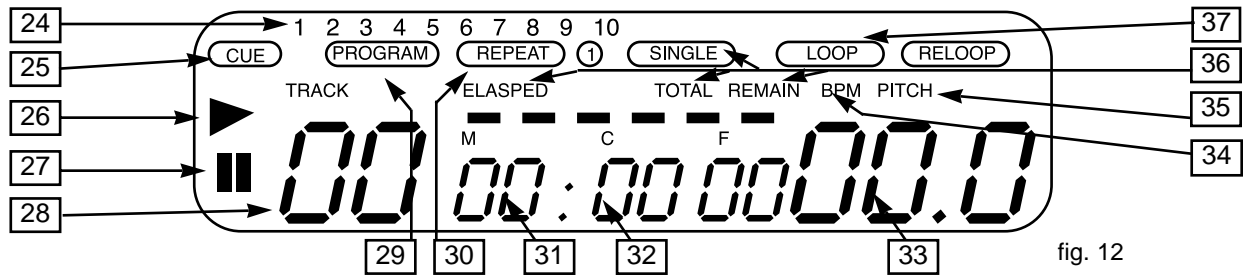

fig. 12
**16. PITCH SLIDER** - The pitch can be changed from +/- 8%, +/- 12% or +/- 16%. Press the PITCH BUTTON (10) until the PITCH LED is lit, then move the PITCH SLIDER (16). The pitch will not be changed if the PITCH LED is off. Pitch percentage (%) can be changed by holding the PITCH BUTTON (10) and pushing the plus (+) button to change the percentage (%) selection.
**17. BPM BUTTON** - Switches the mode of the display between the BPM or the percentage (%) change in PITCH. Use COUNTER BUTTON (18) to change modes. BPM or PITCH mode will appear in LCD DISPLAY (8 & 33, 34, 35)
**23. RELOOP BUTTON** - If a SEAMLESS LOOP has been made, but the CD Player is not actively in SEAMLESS LOOP mode, press the RELOOP BUTTON (23) to reactivate the SEAMLESS LOOP mode. RELOOP will appear in the LCD DISPLAY (37). To exit loop, press the OUT/EXIT BUTTON (21).
**24. PROGRAMMED CUE POINTS** - Indicates how many CUE POINTS have been saved. Save up to 10 CUE POINTS per side. For setting CUE POINTS see (20).
**25. CUE INDICATOR**- appears when the CUE BUTTON (20) is pushed.
B. LCD Display (figure 12)